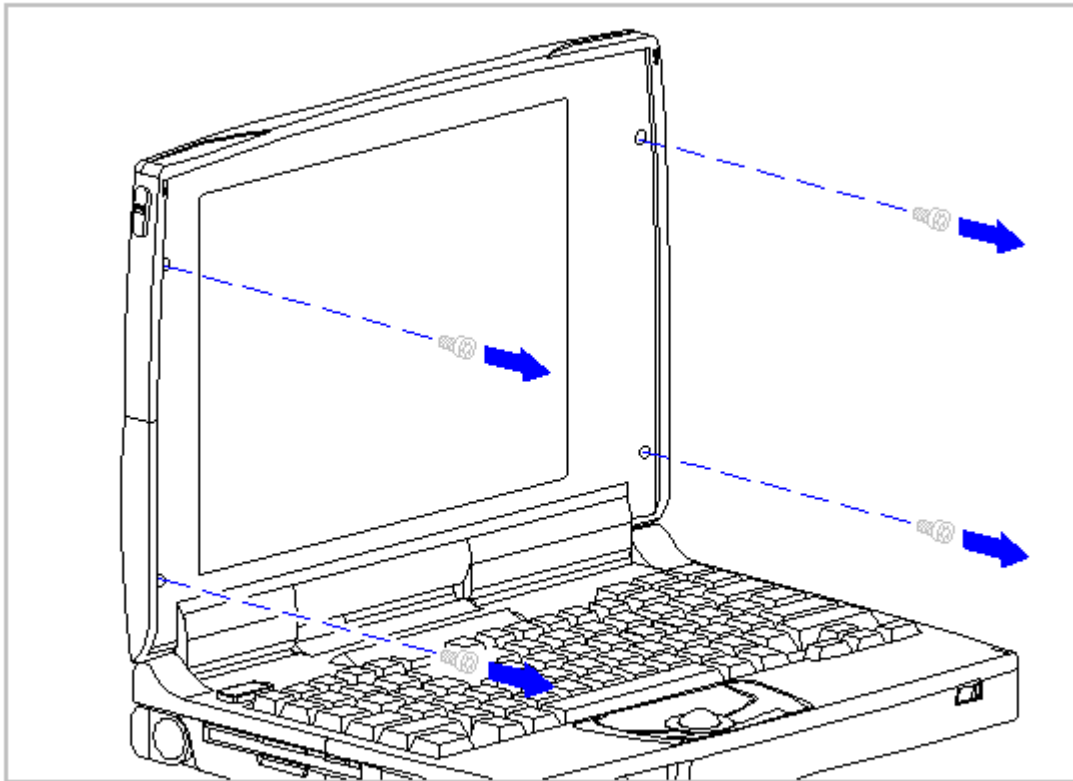

Figure 3-129. Removing the Display Bezel Screws (Models 420 and 430)
3. Remove the four screws from the display bezel (Figure 3-129).